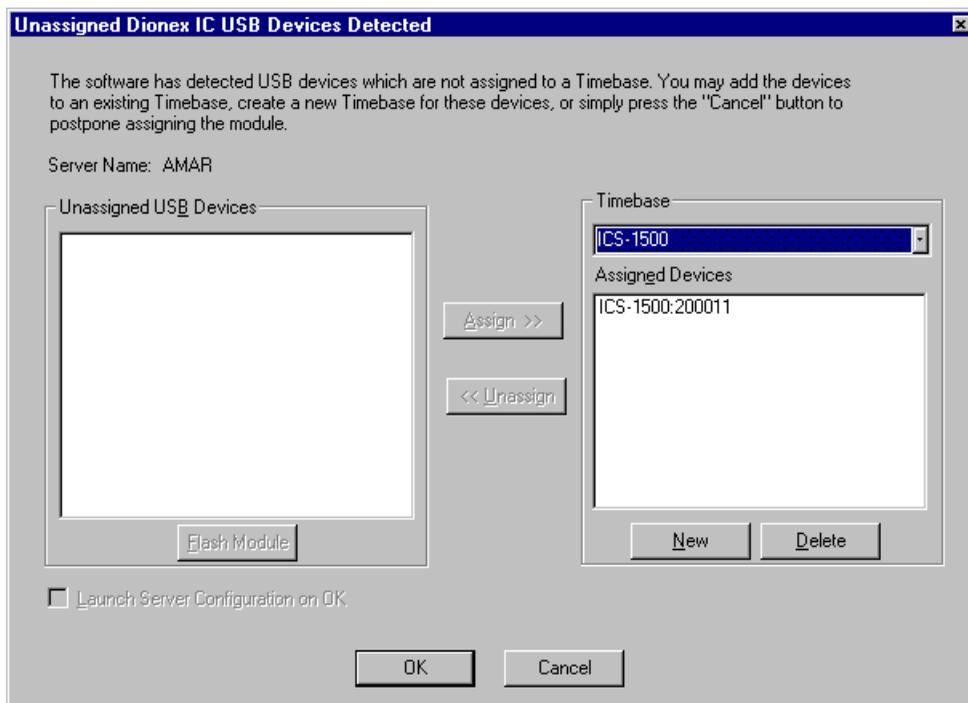

Figure 11. ICS-1500 Assigned to a Timebase
7. In the Unassigned USB Devices box, select the ICS-1500 and then click the **Assign** button. The ICS-1500 is now assigned to the timebase (see Figure 11). If you are installing more than one ICS-1500, you can verify the serial numbers for each by checking the label on the component panel. The serial number is also shown on the **INFORMATION** touch screen page.